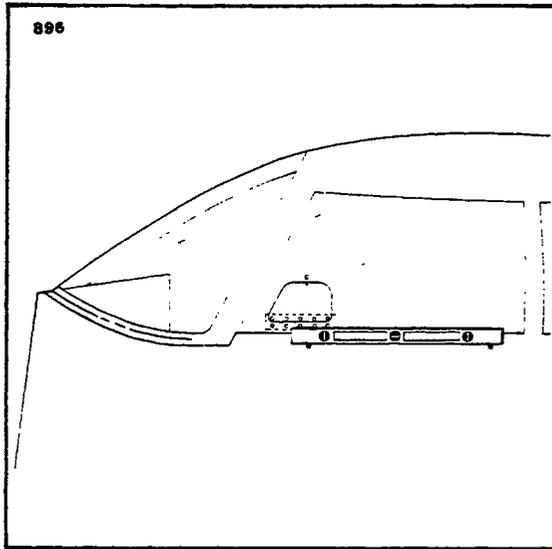

Figure 2-34. Leveling Longitudinally
a. To longitudinally level the airplane, partially withdraw the two leveling screws located immediately below the left front side window. (Refer to Figure 2-34.) Place a level on these screws heads and adjust the jacks until the level is centered. Should the airplane be either on scales or on the floor, first block the main gear oleos to full extension; then deflate the nose wheel until the proper position is reached.